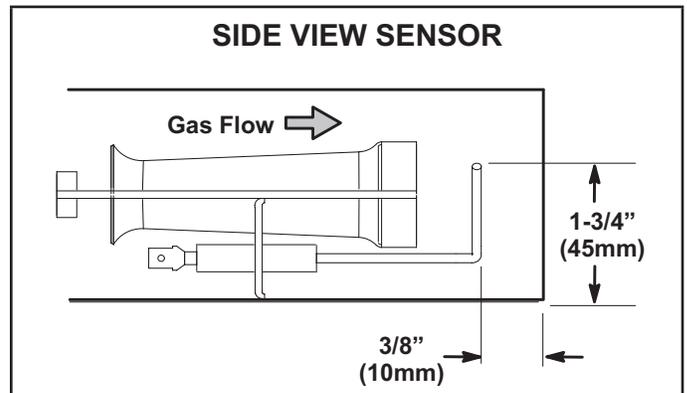

**FIGURE 13**
**9-Spark Electrode FIGURE 13**
During ignition, spark travels through the spark electrode (FIGURE 13) and ignites the left burner. Flame travels from burner to burner until all are lit.
Spark gap may be checked with appropriately sized twist drills or feeler gauges. Disconnect power to the unit and remove electrode assembly. The gap should be between 0.125" + 0.015" (3.2 mm + .4 mm). See FIGURE 13.